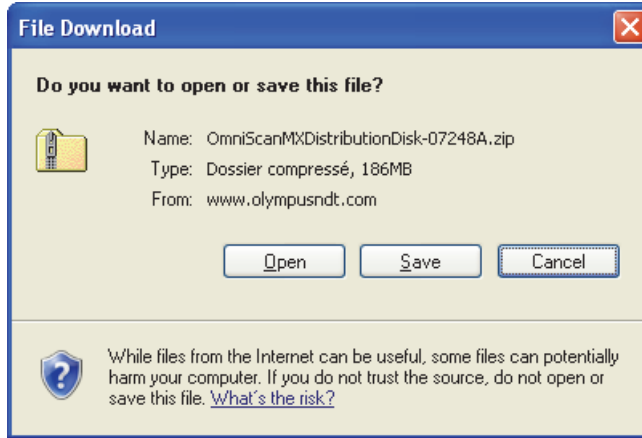

Figure 4-3 The File Download dialog box
5. In the **File Download** dialog box, click **Save** (see Figure 4-3 on page 66).